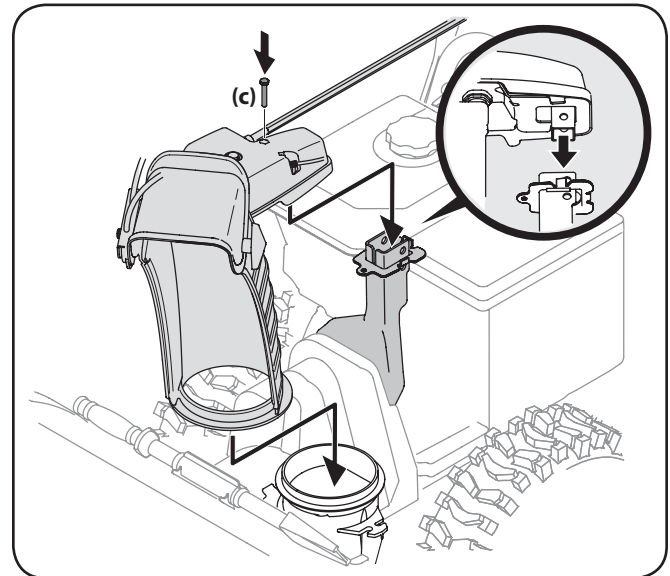

Figure 3-5
3. Place chute onto chute base and ensure chute control rod is positioned under the handle panel. Install hex screw (c) removed in Step 1, but do not secure with wing nut at this time. See Figure 3-5.